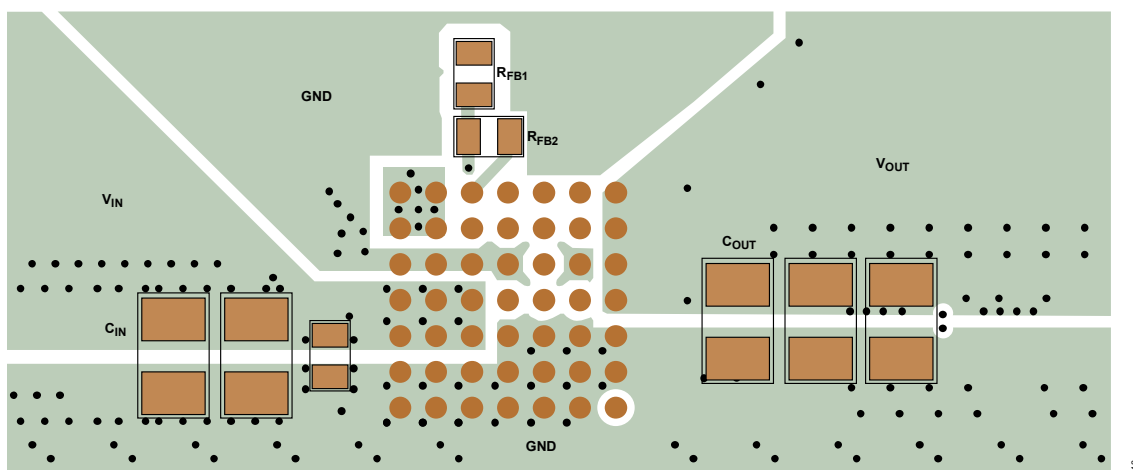

Figure 43. Recommended PCB Layout showing suggested External Components, GND Plane, and Thermal Vias
Most of the headaches associated with PCB layout have been alleviated or even eliminated by the high level of integration of the LTM4739. The LTM4739 is nevertheless a switching power supply, and care must be taken to minimize EMI and ensure proper operation. Even with the high level of integration, you may fail to achieve the specified operation with a haphazard or poor layout. See Figure 43 for a suggested layout. Ensure that the grounding and heat sinking are acceptable.
5. Use vias to connect the GND copper area to the board's internal ground planes. Liberally distribute these GND vias to provide both a good ground connection and thermal path to the internal planes of the printed circuit board. Pay attention to the location and density of the thermal vias in Figure 43. The LTM4739 can benefit from the heatsinking afforded by vias that connect to internal GND planes at these locations, due to their proximity to internal power handling components. The optimum number of thermal vias depends upon the printed circuit board design. For example, a board might use very small via holes. It should employ more thermal vias than a board that uses larger holes.